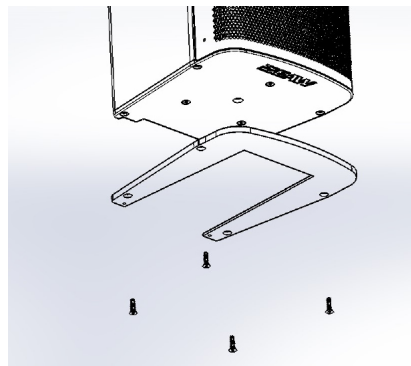

Figure 8 - Install Slide Plate
- Position Slide Plate over open holes, then use 4x M5x20 (B) to secure slide plate to the cabinet (Figure 8)